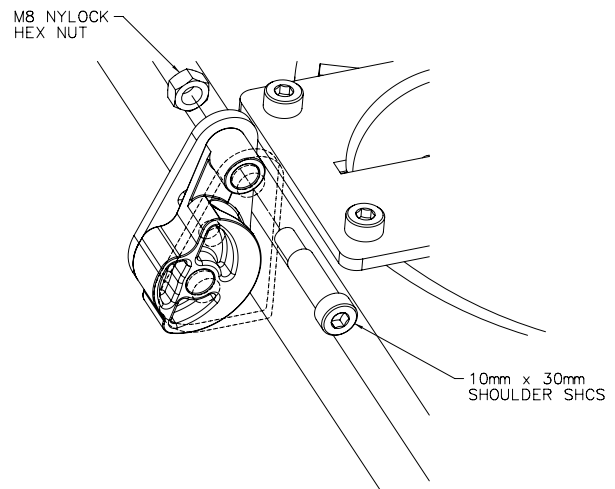

Figure 5
6. Insert rope guide between flange located towards the back of the plow base. Use a 10mm x 30mm shoulder bolt through the top hole of flange to hold the rope guide in place. Terminate with an 8mm diameter lock nut. See Figure 5.